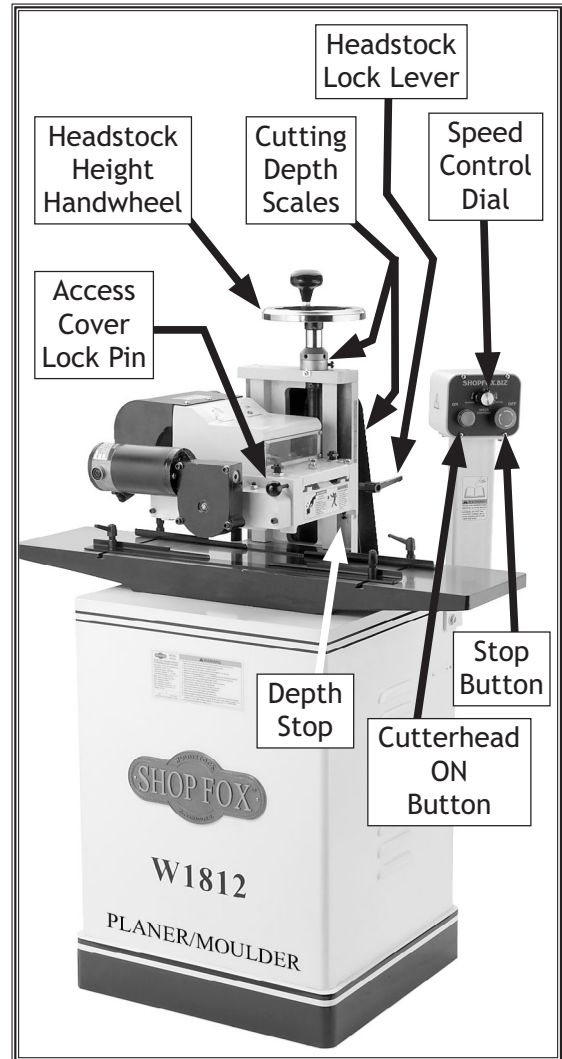

Figure 19. Machine controls.
Before proceeding with this operation section, see **Figure 19** to familiarize yourself with the locations and names of the planer/moulder controls.
9. Set the depth stop (**Figure 19**) to maintain planer blade to table clearance.